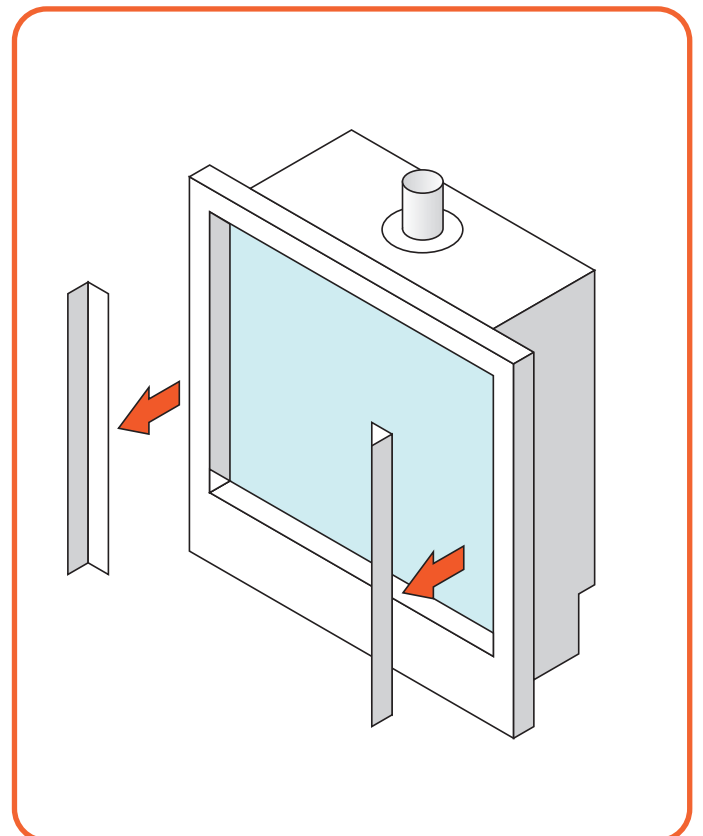

Figure 10.2 - Remove Side trims
- Remove both the side trims. They cover up the window frame. (*Figure 10.2 & 10.3*)